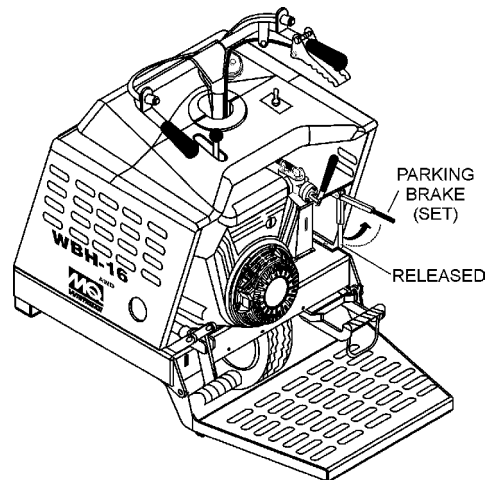

Figure 17. Parking Brake Lever
- Engage the parking brake lever (Figure 17) and attempt to rock the buggy back and forth. If the wheels turn during the rocking motion, adjust the brakes as outlined in the maintenance section of this manual.
2. Engage the parking brake (Figure 17).